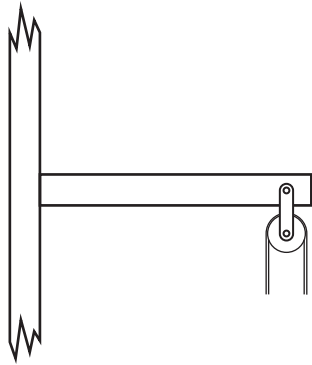
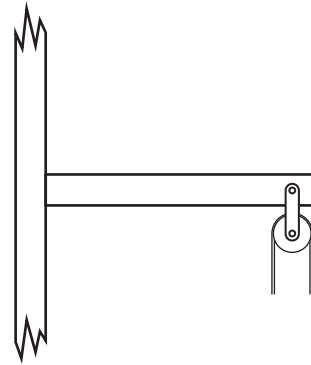

Fig. 7a
Fig. 7b
- (c) (i) Fig. 7a and Fig. 7b show two views of a beam used to support a pulley for raising loads on a building site.
- a gusset plate on Fig. 7a
- a brace on Fig. 7b